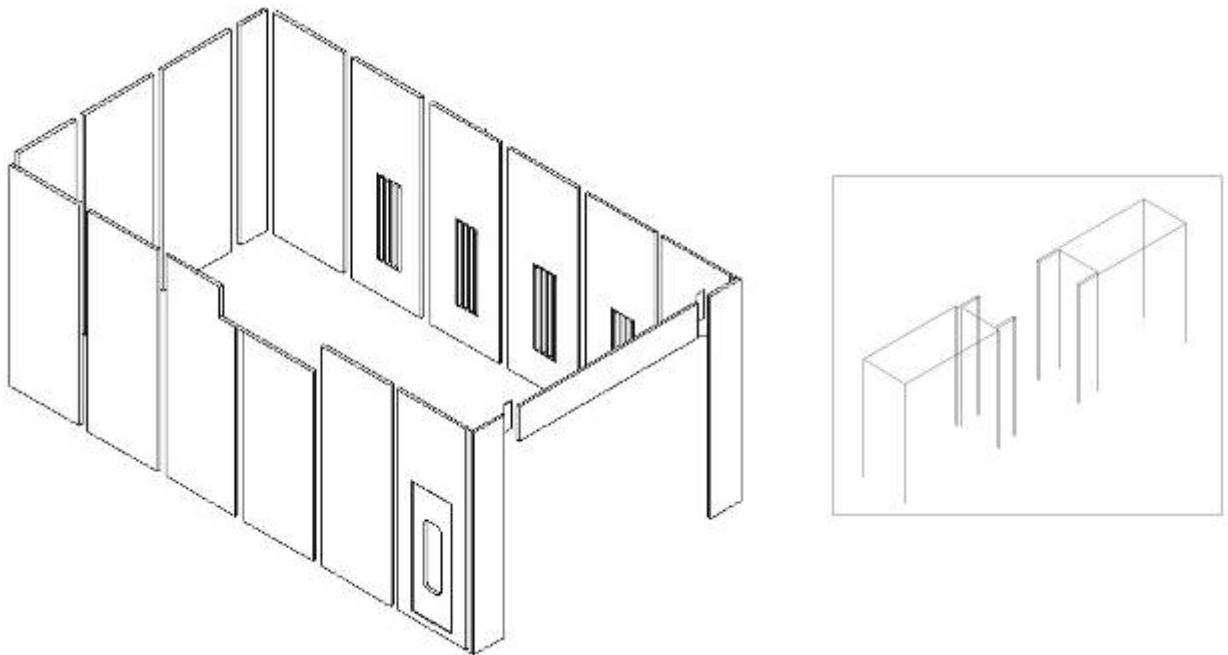

Fig. 3.8
1) connect the wall board in turn and fix the to the down U style slot with nail, make sure the gap should be smallest. Check the whole length of two sides wall board should be suit for the demand. (shown in Fig3.8)